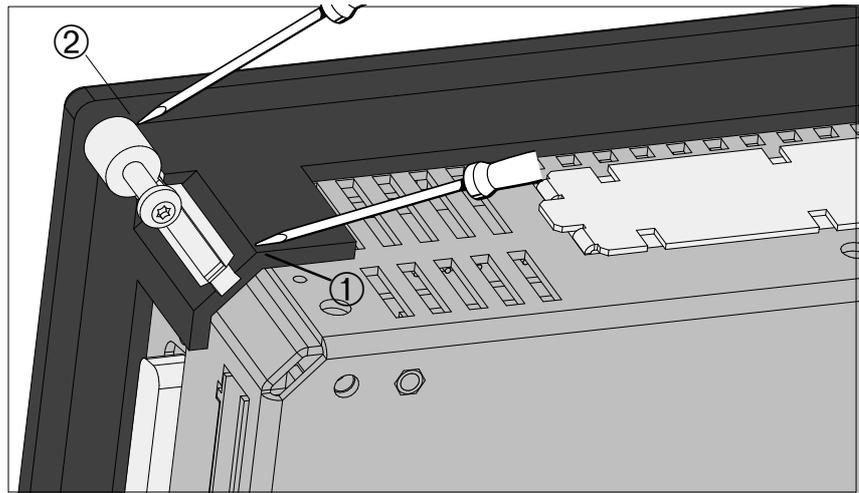

Figure 2-6 Loosening the Fixing Bracket
2.	Lift fixing bracket (① in Figure 2-6 ).
3.	Push fixing bracket out of guide (② in Figure 2-6 ).